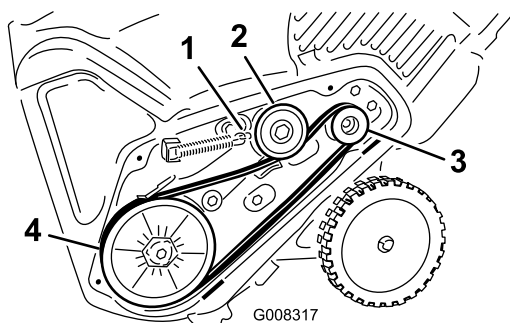

Figure 37
8. Install the brake spring onto the idler arm (Figure 37).
5. Install the new drive belt, routing it as shown in (Figure 37).